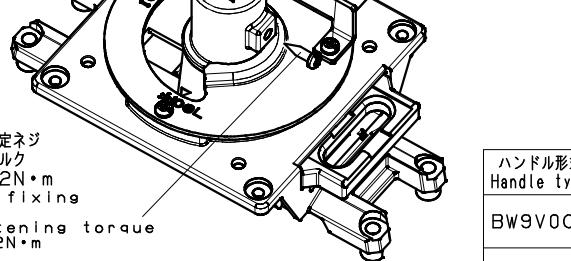

図5 Fig. 5
(4) シャフトガイドと延長シャフトの取付け(図5)
- ・延長シャフトの取付け方向は図5に従ってください。
(4) Mounting the shaft guide and extension shaft(Fig.5)
- Pass the shaft (extension shaft) to which the latch was attached in (3) through the shaft guide to mount it in the shaft holder and tighten the shaft fixing screw.
• For the extension shaft mounting direction, see Fig. 5.